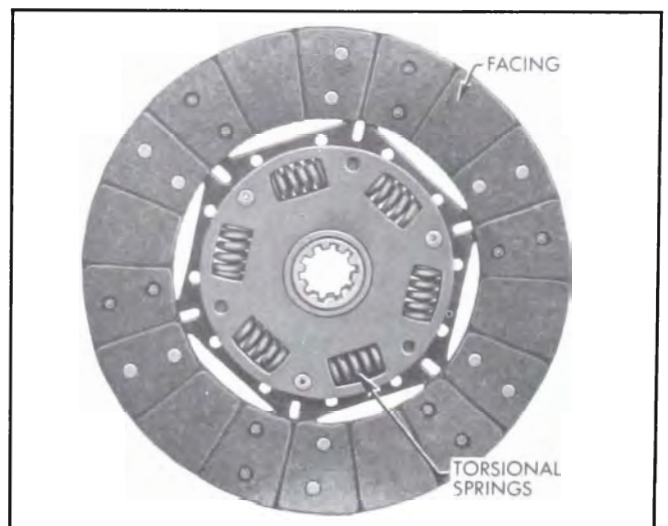

Figure 4-2—Driven Plate—Transmission Side
The outer area of the driven plate is divided into segments which are formed in low waves to provide springs between the plate facings and thereby cushion engagement of the clutch. A molded facing, grooved to give release, is riveted to each side of every segment of the plate. When the clutch is fully released, the waved segments cause the facings to spread approximately .055" and the movement of pressure plate provides an additional clearance of approximately .030" to assure full release of driven plate. See Figure 4-2.
3. Clutch Driven Plate. Inspect driven plate for condition of facings, loose rivets, broken or very loose torsional springs, and flattened cushion springs. See Figure 4-2.